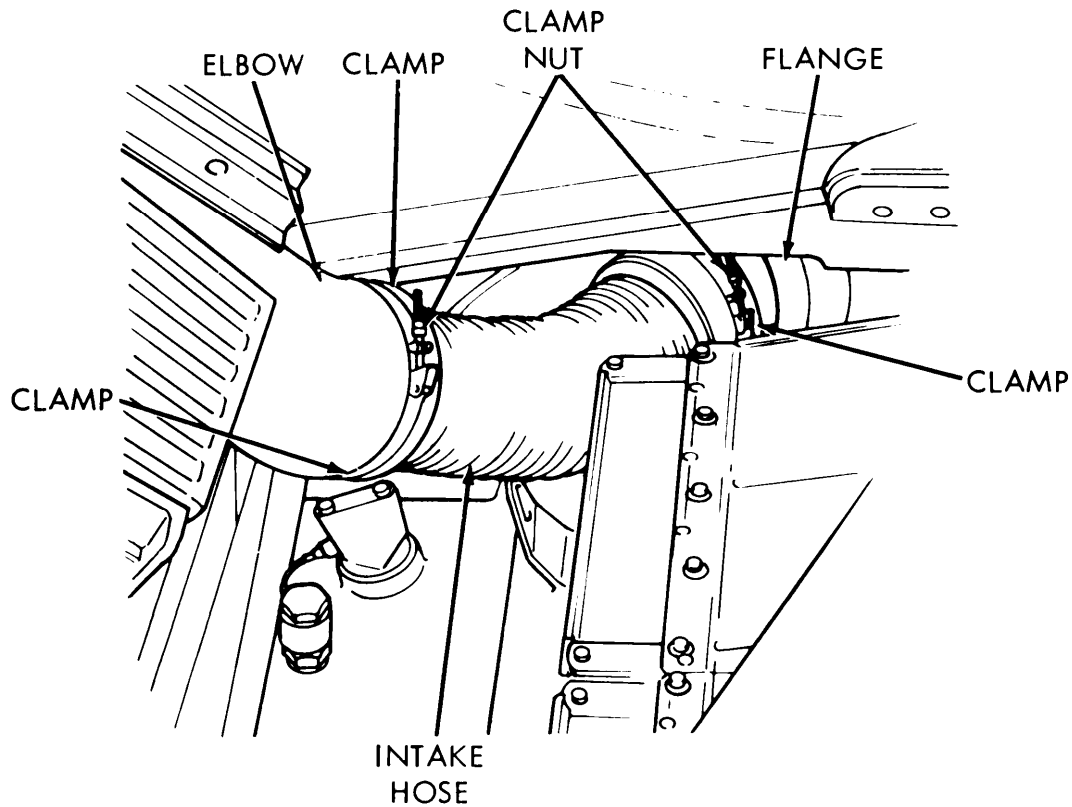

Figure 3-11. Air intake hose replacement.
(1) *Intake Hose (Flat Band Clamp) (Fig. 3-11)*